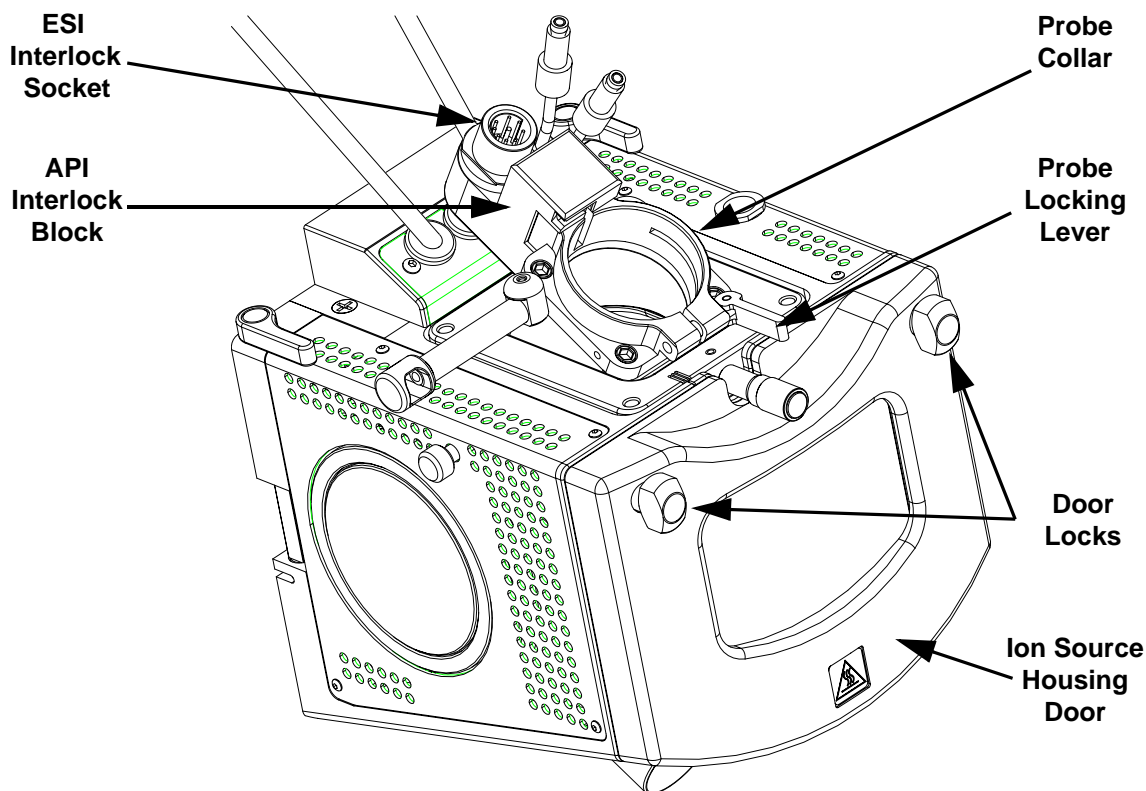

Figure 2-2. Ion Max ion source housing, detail of components
- a. Connect the vaporizer heater cable to the ESI interlock socket on the ion source housing. See Figure 2-2.